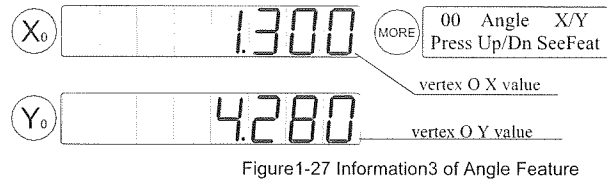

Figure1-27 Information3 of Angle Feature
- 3) Press , and the information is displayed as in figure1-27